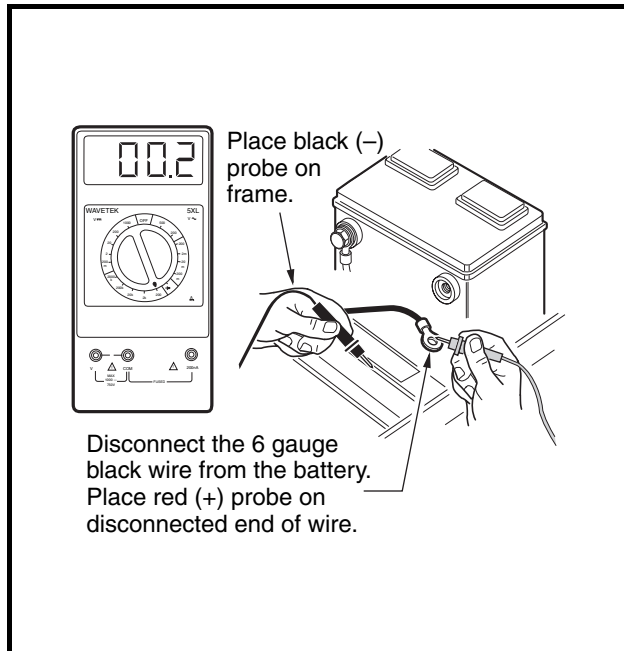

Figure 11-8 Battery Ground Cable Test
- 6.2. Set the multimeter to 200 ohms. Place the red (+) probe on the unconnected end of the 6-gauge black wire, and place the black (–) probe on the vehicle frame (**Figure 11-8, Page 11-13**). The reading should be continuity. If the reading is incorrect, check that terminal connections are clean and tight. If the connections are good and the reading is incorrect, repair or replace the wire.